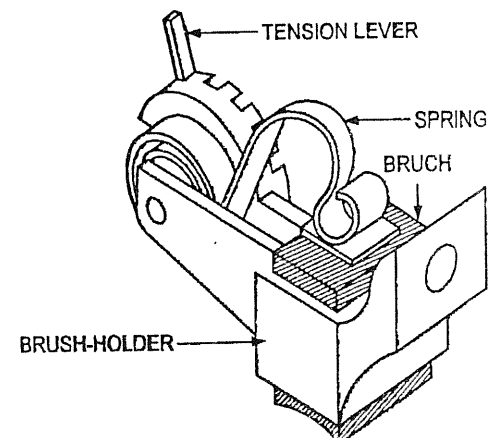

FIG. 4.28.13
- Fig. 4.28.13 shows the construction of the brush and the brush holder.